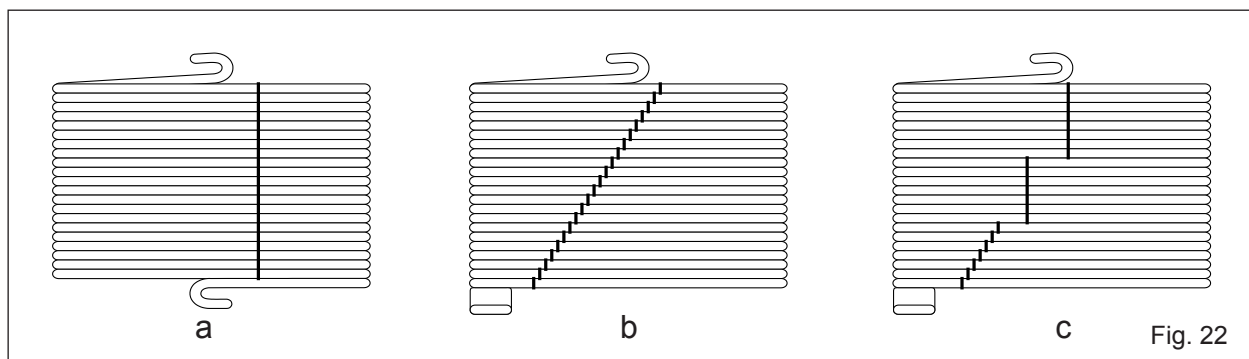

Fig. 22
- 1) With the door closed, trace a vertical line on the spring (fig. 22 ref.1 );
If the distortion is not uniform along the whole spring height (fig. 22 ref.2 ), but is irregular (fig.22 ref.3 ), lubricate the spring with specific sliding grease.